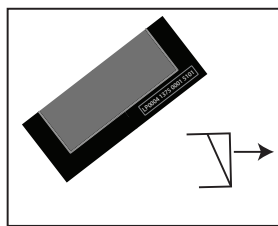

Figure 2.6
6. Carefully tilt the safe just enough to allow removal of the remaining leg (Figure 2.6).